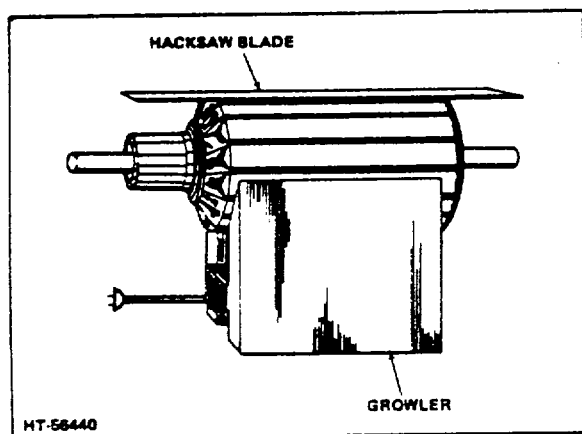

Figure 4-1. Testing and Armature for ER-22-2
1. Check the armature for shorts by placing it on a "growler" and with a steel strip, or a hacksaw blade held on armature core; rotate armature (Fig 4-1). When blade vibrates, armature is shorted in area of the core below the vibrating blade. Copper or dust in slots between commutator bars sometimes cause shorts which can be eliminated by cleaning out slots. Shorts at crossovers of coils at core end can often be eliminated by bending wire slightly and reinsulating exposed bare wire. When shorts cannot be eliminated, armature must be replaced.
3. Open circuits in an armature may be caused by a poor connection of leads in the commutator bars or by a broken wire in an armature coil. Either will cause sparking at the brushes. Poor connections and broken wires can often be detected visually. When this is not possible, set up the armature on the growler as shown in (Figure 4-1). Test the top two adjacent bars with an a-c millivoltmeter. Rotate the armature and continue testing adjacent bars. When the millivoltmeter bridges the two bars connected to the open coil, the meter pointer will not be deflected. All other bars will give a deflection.